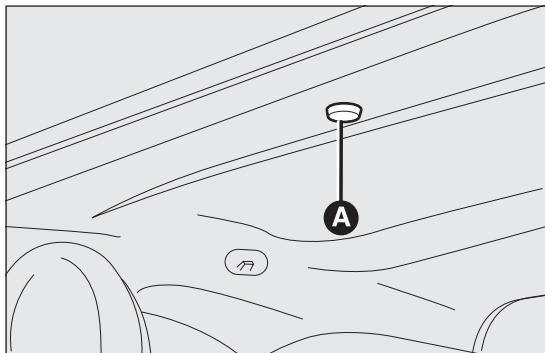

fig. 46
- ☐ for manual activation remove the protective cap A fig. 46 from its housing which is located on the internal covering behind the sun blind